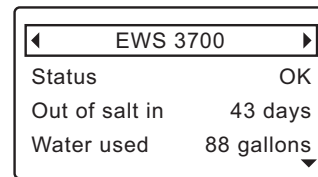

FIG. 61
1. Press the remote's LEFT (◀) or RIGHT (▶) buttons to manually advance to the **EWS 3700** status screen (See Figure 61).
1. Press the remote’s LEFT (◀) or RIGHT (▶) buttons to manually advance to the **EWS 3700** status screen (See Figure 61).